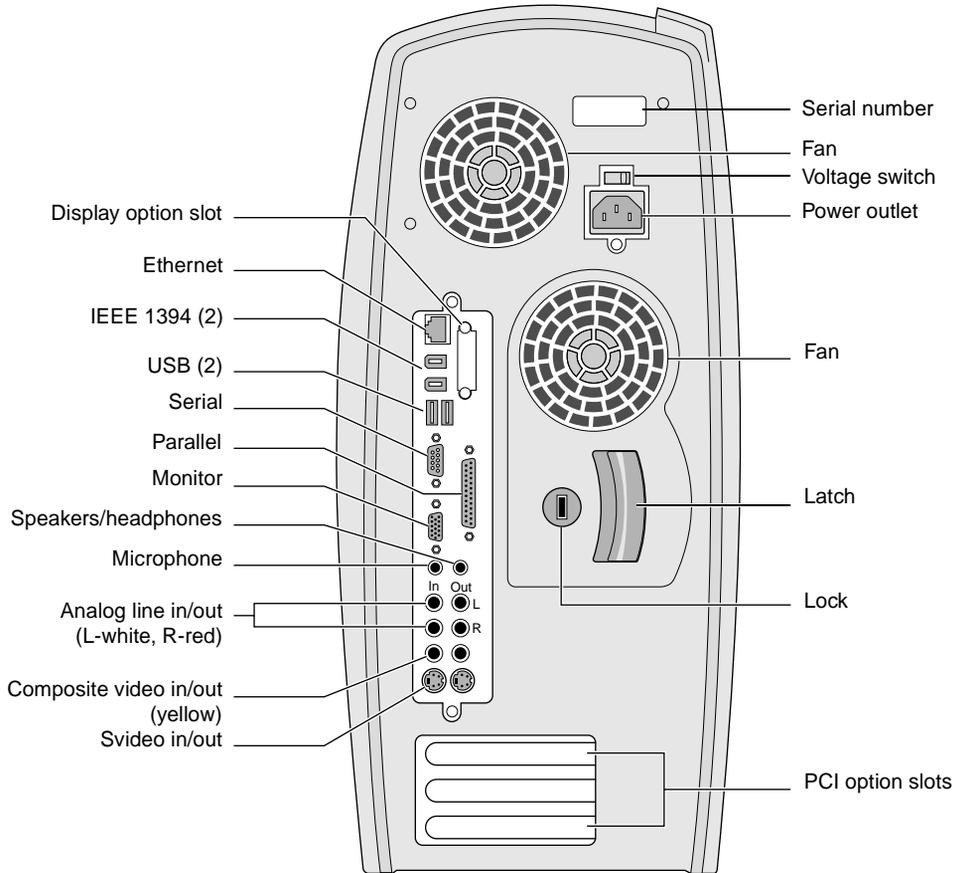

Figure 1-2 Back View of the System (Ports Labeled)
After unpacking all the parts and checking your shipment, you are ready to set up the workstation. Refer to the installation poster that ships with your Silicon Graphics 320 workstation or to the instructions on the following pages. You can also use Figure 1-2 to help you identify the ports on the back of the system.
7. Attach any other external devices such as printers, modems, or speakers. Refer to Figure 1-2 to identify the ports.